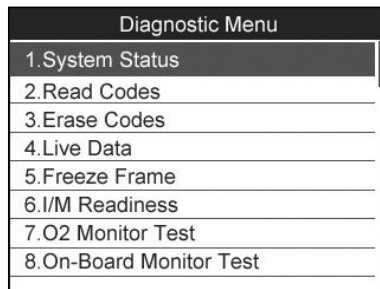

Figure 5.3
- 7) View a summary of system status (MIL status, DTC counts, Monitor status) on screen (*Figure 5.1*). Press **OK** button for **Diagnostic Menu** (*Figure 5.3*) to come up.
- 1) Use the **UP/DOWN** scroll buttons to select **Erase Codes** from **Diagnostics Menu** and press the **OK** button (*Figure 5.3*).
- 1) To view live data, use the **UP/DOWN** scroll button to select **Live Data** from **Diagnostic Menu** and press the **OK** button (*Figure 5.3*).